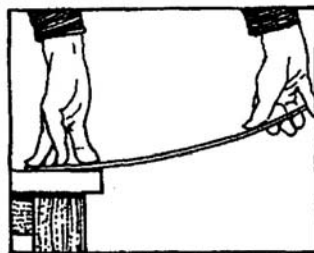

Figure 38-1.
2. Snap the free end of the ruler, allowing it to vibrate, as shown in Figure 38-1. Listen to the pitch of the vibrating ruler. Predict what you will hear if you shorten the free end of the ruler and snap it. Record your prediction in Part A of the Data and Observations section. Vary the length of the free end of the ruler to create vibrations of different frequencies. Note the changes in pitch with the change of frequency. Record your observations in Part A of Data and Observations.